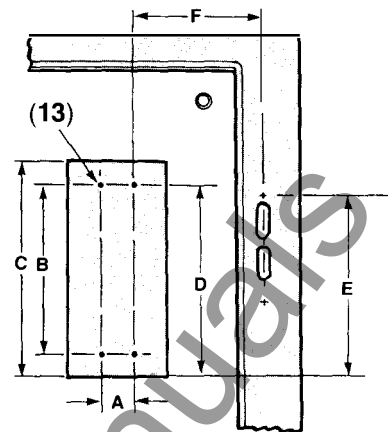
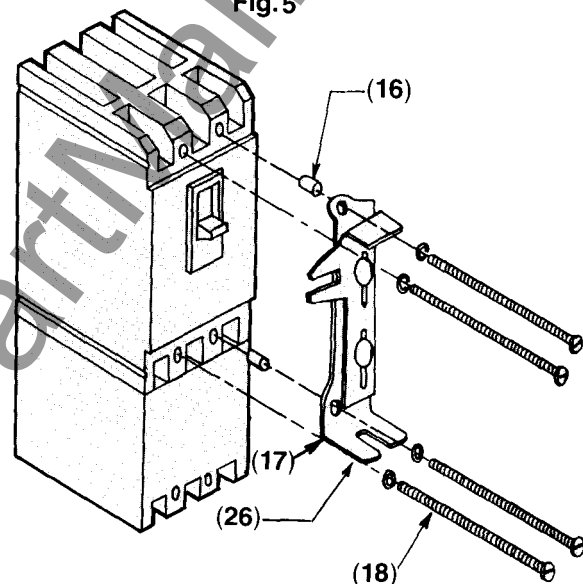

Fig. 5
Fig. 6
The circuit breaker can be mounted remotely from the handle within a range that is limited by the length of the operating cable (14) and the depth of the enclosure. Tables 2, 3 and Fig. 5 show the vertical range (E) of the circuit breaker in 8-16 inch enclosures, when mounted at the horizontal distance "F" from the handle.
- Determine the desired circuit breaker mounting location using Tables 1, 2 and Fig. 5.
- Drill and tap four mounting holes (15) in the enclosure back panel using dimensions "A" and "B" from Table 1.
- Insert the three plastic spacers (16) into the circuit breaker mounting holes for support, as shown in Fig. 6.
- Install the operating mechanism (17) on the spacers (16) and secure with the three 1/4-20 x 5" pan head screws and lockwashers. Insert the 1/4-20 x 4 1/4" pan head screw through the hole without a spacer (18). Mount the circuit breaker and operating mechanism to the enclosure panel with the screws supplied.